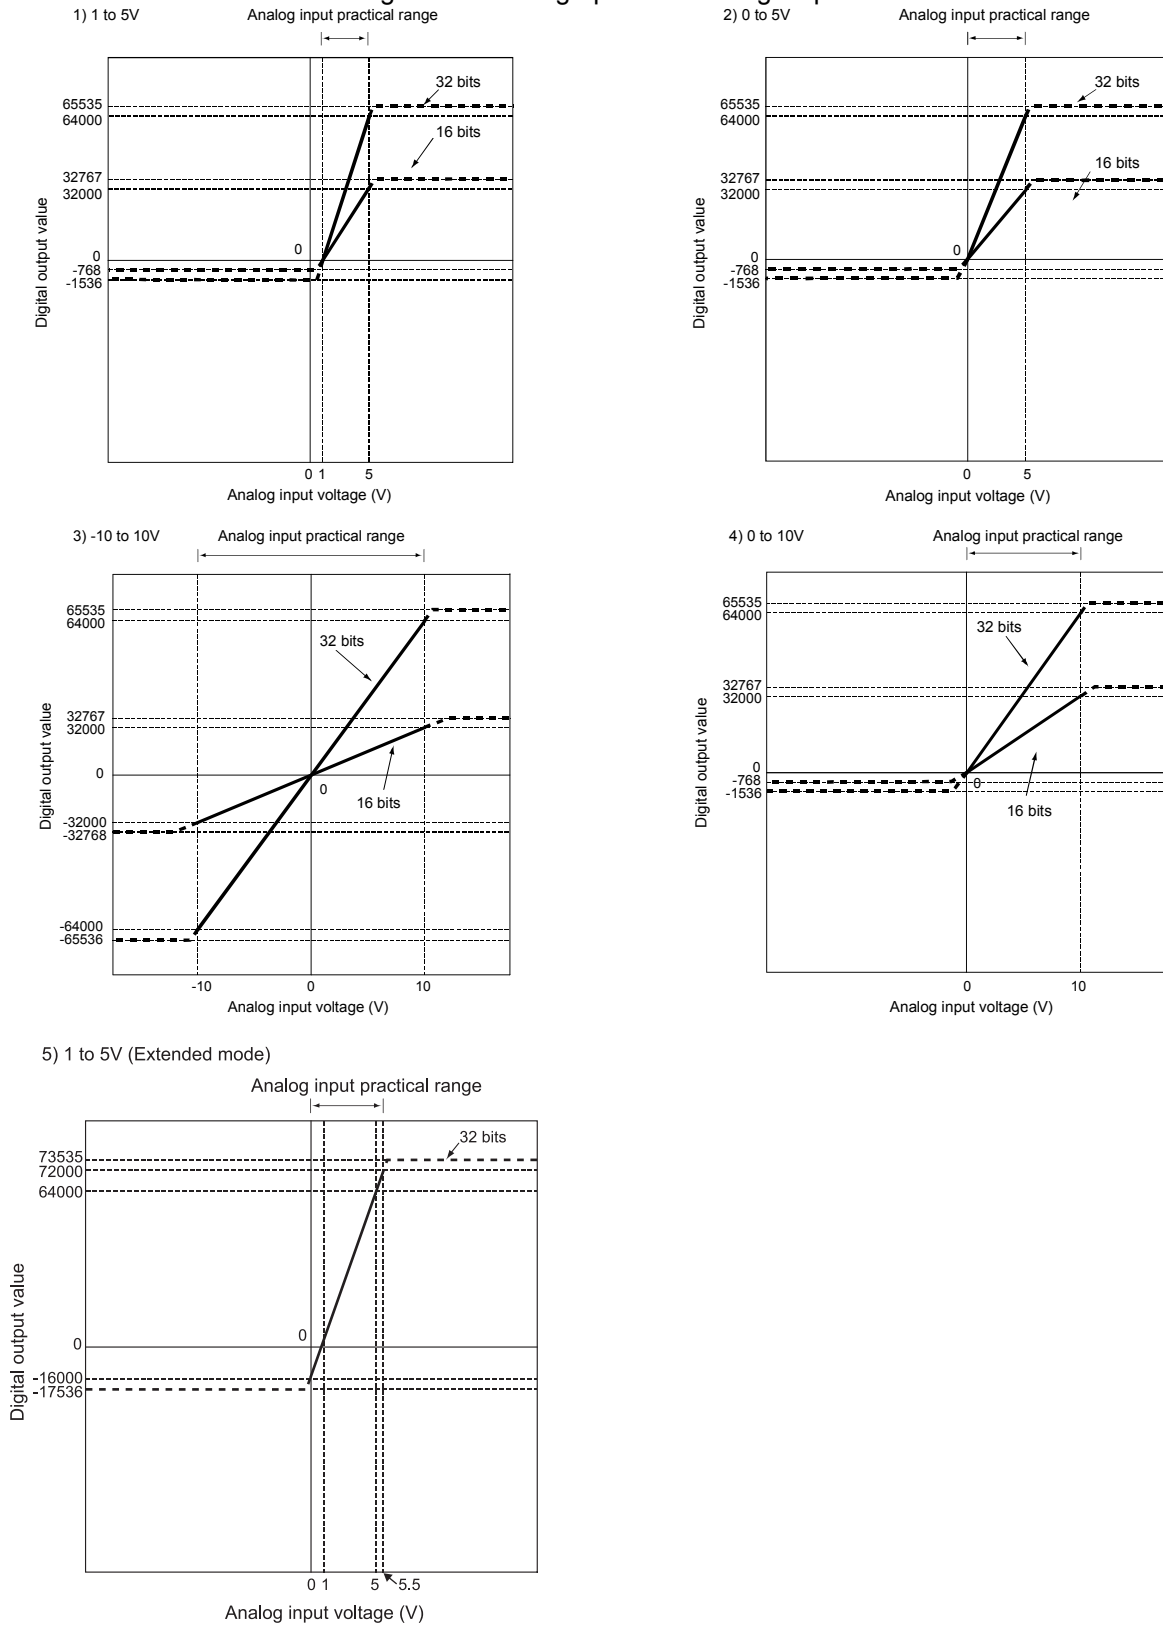

Fig. 3.1 Voltage input characteristic of Q64AD-GH
Fig. 3.1 shows a graph of the voltage input characteristic.
<p>(1) Set within the analog input range and digital output range for each input range. If these ranges are exceeded, the resolution and accuracy may not fall within the performance specifications. (Avoid the use of dotted areas of Fig. 3.1.)</p>